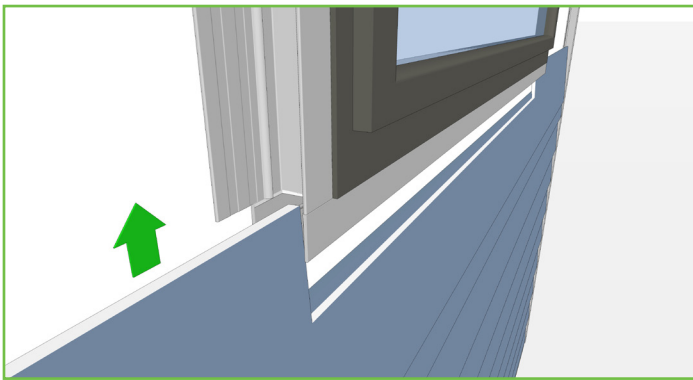

Figure 24.2
- 6.** Install EZ.40 J trim along the jamb so that the bottom butts up to the sill J trim and aligns with the notch previously cut in the sill trim. Then cut and install a lap plank to fit into the sill and jamb trims. (Figure 24.2).